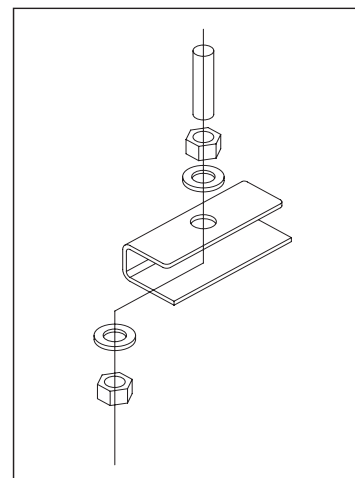

FIGURE 1
4. Suspend hood from adequate roof supports using 1/2" threaded rods with nuts and washers (See Fig. 1).
3. Suspend hood from adequate roof supports using 1/2" threaded rods and nuts to hood hanger bracket. Slide chrome sleeve over all thread rod before securing to hood/structure. Hanger bracket is connected to stainless steel duct. (See Fig.1)
6. For SSA-PIZZA420480 only: Hanging brackets are not provided. Included stainless duct section will support hood when fluid welded to the collar. Connect hanging brackets to structure. (See Fig. 1)